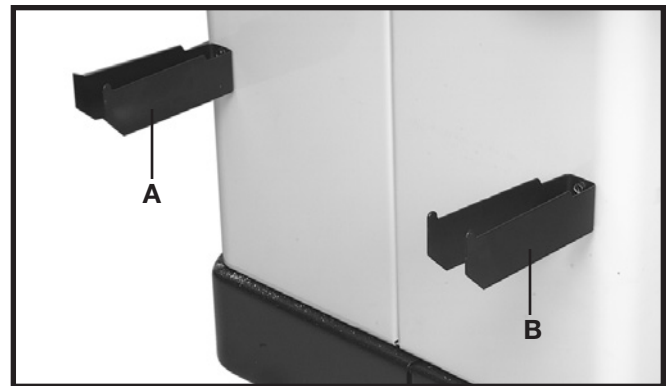

Fig. 37
Assemble the rip fence holder brackets (A) and (B) Fig. 37, to the four holes located in the right hand side of the saw cabinet using four #10 x 1/2" sheet metal screws supplied.